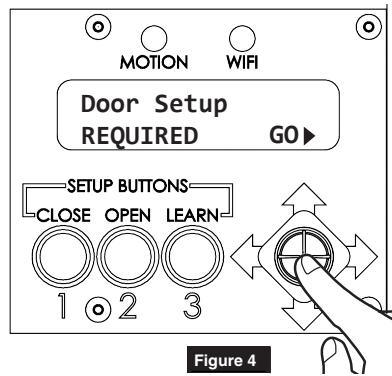

Figure 4
1. Select GO from the Door Setup REQUIRED menu by pushing joystick to the right. (Figure 4)